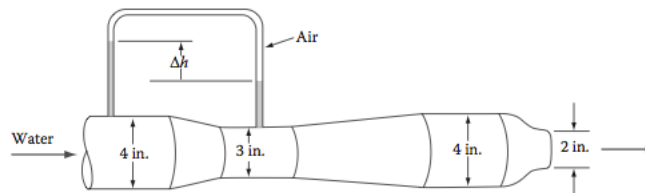

FIGURE P3.51
- 3.51** Water flows steadily through the system shown in Figure P3.51. The 4-in. section leads to a 3-in. throat, followed by a divergent section and, finally, a nozzle whose exit diameter is 2 in. An air-over-water manometer is connected between the 4-in. and 3-in. sections. Determine the expected reading Δh on the manometer if the velocity at the exit is 8 ft/s .